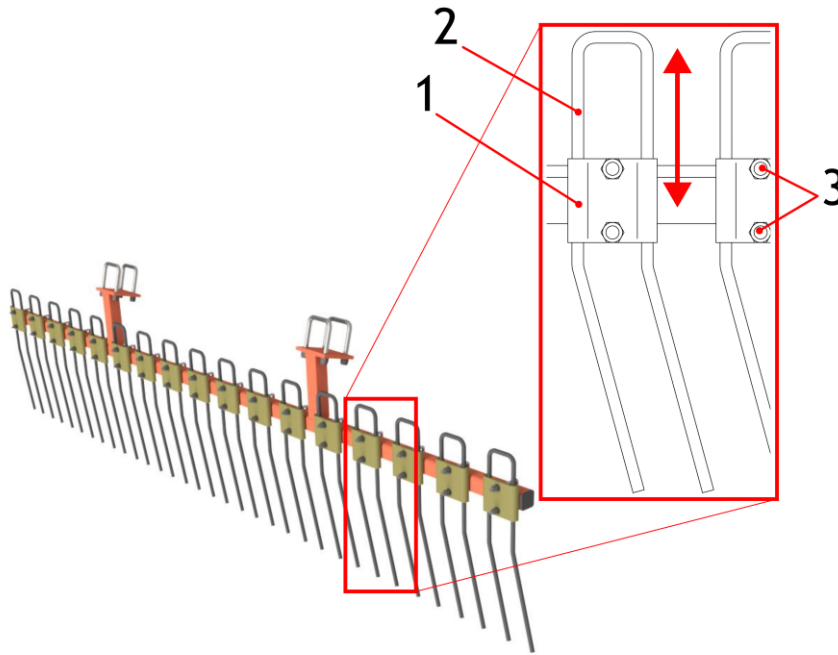

Figure 31 Adjustment of the position of the spring screen claws (1 – mounting plate, 2 – spring claw, 3 – fastening nuts)
1. Loosen the nuts (Fig. 31, item 3) and the plate (Fig. 31, item 1),
2. Extend upwards or retract downwards the claw (Fig. 31, item 2),